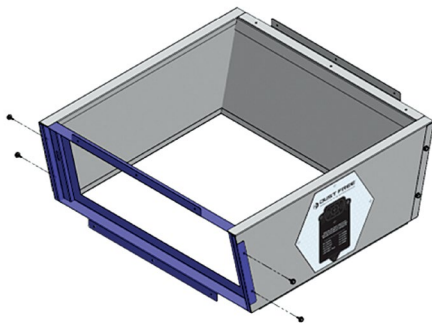

Figure 8: Secure door frame to rest of unit with supplied No.10 x 3/8" screws
7. Secure the door frame to the side panels using the supplied No. 10 x $\frac{3}{8}$ " screws in the aligned pre-drilled holes as depicted in **Figure 8**.